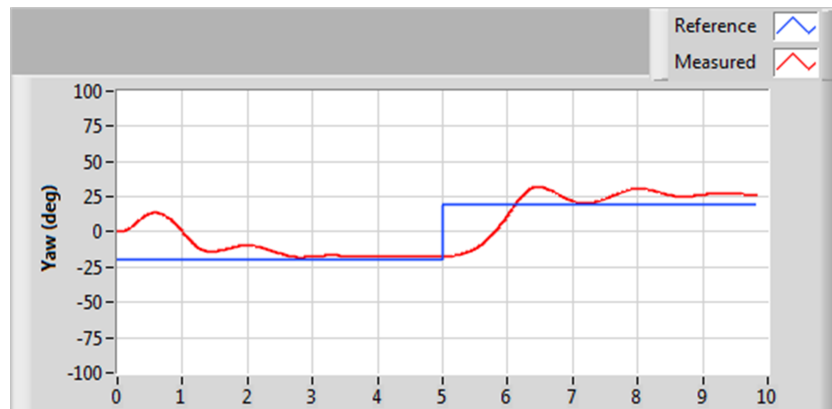

Figure 5.14: Closed-loop LQR response under yaw reference step
14. Figure 5.14 depicts the typical measured yaw response given a desired step yaw angle.